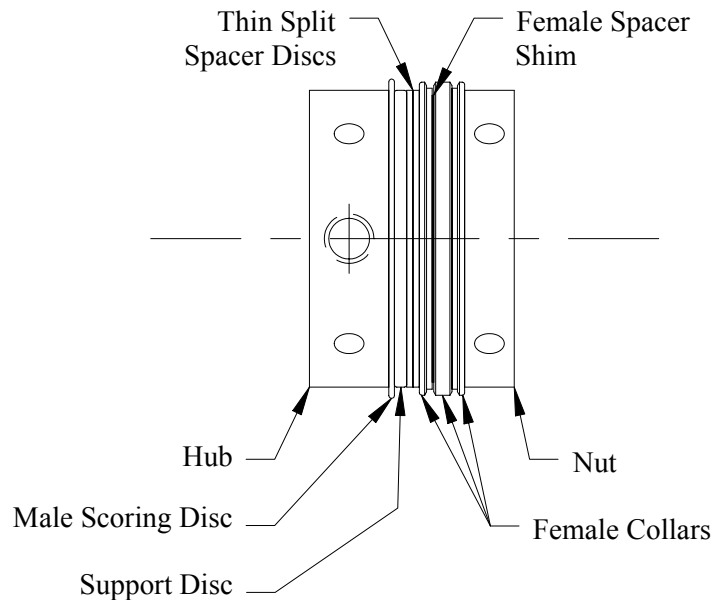

Fig 2.1 Standard Upper & Lower Head Configuration.
For the standard configuration that places the hinge score in the opposite direction as the spine score, assemble all (4) heads with a male scoring disc and female scoring collar as shown in Fig. 2.1. There are two color-coded male scoring discs to choose from. The selection of the male scoring disc is generally based on the width of the score required and the weight of the stock to be scored. The black is narrow and the red is wide. The female collars can be spaced apart creating a wider female groove by inserting the spring steel female spacer shim between one outer female collar and the center female collar. Generally the red male scoring disc can be used in a wide or small female groove however it is recommended that the black male scoring disc only be used in the smaller female groove. A combination of red and black male scoring discs can also be used, generally black for the spine score and red for the hinge score depending upon stock thickness.